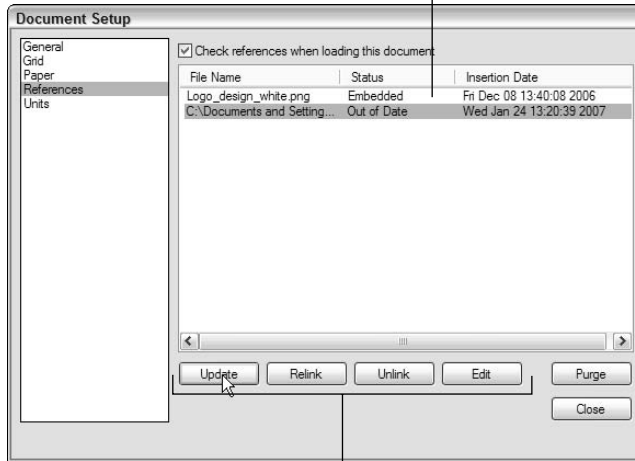

Figure 15-10:
- ✓ **Don't forget to check the document setup.** When a SketchUp model you've inserted is modified, LayOut knows about it — but it doesn't automatically update your views to reflect the changes. You have to do it yourself: Choose File⇒Document Setup and then click to open the References panel. (See Figure 15-10.) Select each model view you want to update, and then click the Update button.